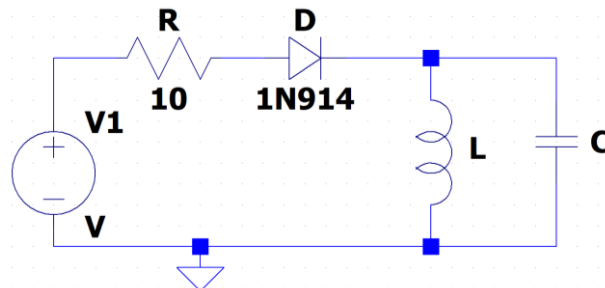

Figure B-1. Note: the signal generator on the M2k has a 50Ω output resistance.
Using LC circuits to estimate inductance: Now we will use a different experimental method to estimate the coil inductance. In the circuit of Figure B-1, V1 is the M2K Signal Generator. R is a resistor added to both limit and measure the current from the signal generator. L is the inductance of the coil to be measured. C is a known capacitor chosen to make L easy to determine. D is a diode used to direct current toward the inductor and to shut off current when the source voltage goes negative so that the inductor can send its energy to the capacitor.
- Set up the circuit in Figure B-1 on your Protoboard, but be sure that you include the 10Ω current limiting resistor R. Use the capacitor value and your DIY inductor. Use the 1N914 diodes in your parts kit (don't lose it, you will need all four later in the course). Be careful to make sure that the inductor is making contact with the protoboard. Bad connections can be a common problem.